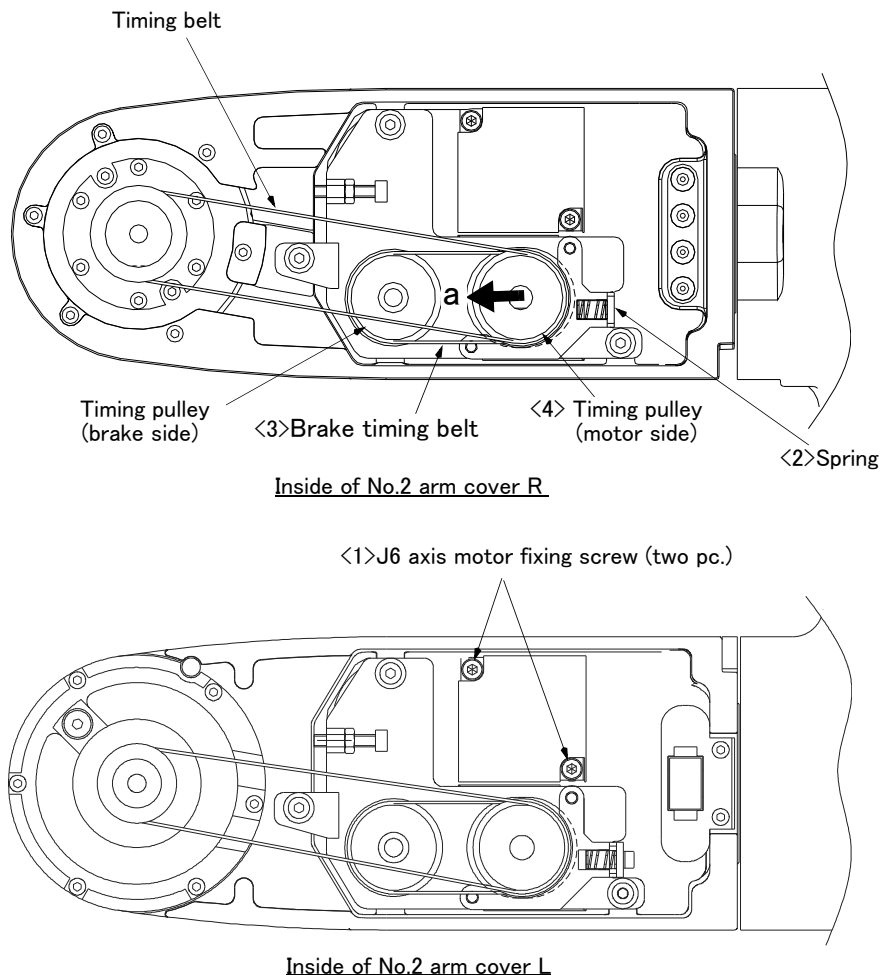

Fig.5-12 : Inspection, maintenance and replacement of J6 axis brake timing belt
The reference figure at inspection, adjustment, and replacement of the brake timing belt is shown in Fig. 5-12. After adjustment of J6 axis brake timing belt, the adjustment of the timing belt which rotates the J6 axis is also needed. Moreover, it is necessary to remove J6 axis timing belt for the replacement of brake timing belt.
- 3) Loosen motor fixing screw (1). (two pc.) (Do not loosen too much.)
- 4) Move motor side timing belt pulley (4) in the direction of the arrow "a" of Fig. 5-12 , and remove the brake timing belt.
(8) Timing belt tension